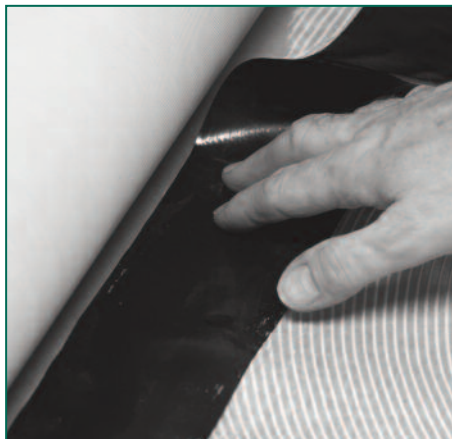

Figure 5 Polyethylene strip
E. Place a length of 100mm wide polyethylene strip onto the edge of the adhesive adjacent to the fold in the vinyl sheet (Figure 5). This will prevent the sheet sticking to the last 100mm of adhesive.